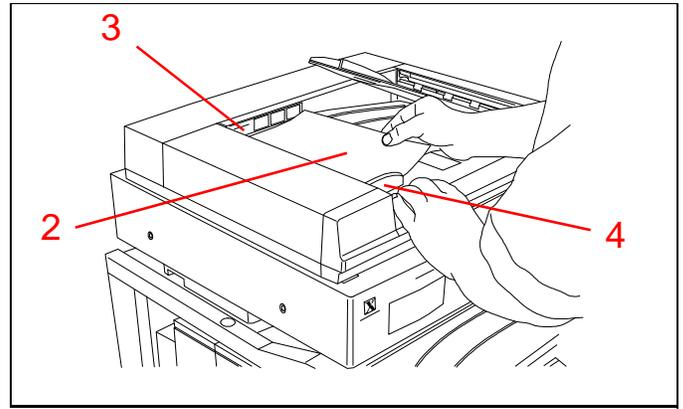

Figure 44
2. See Figure 44. Place the two copies from the previous activity face-up in the document feeder. Orient the originals for long edge feed.